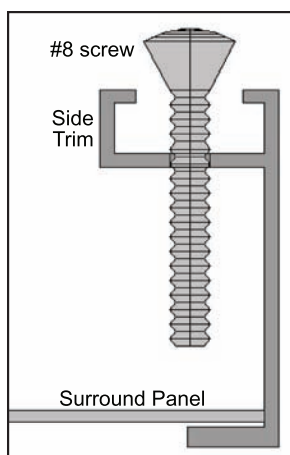

**Figure 34: Corner brackets for trim.**
1. Attach one side trim to the top trim, using a corner bracket (see Figure 34) to secure pieces together. There are two (2) main pieces to each corner bracket (see Figure 35). When installing the corner pieces into the trim, the "B FACE" sides must face each other and the screw heads are to face out. With the bracket in place and the top and a side trim snug together, use a flat head screwdriver to turn the two (2) screws in the bracket to tighten it into the trim. Do not over-tighten the corners or the side trim cannot be removed during servicing.